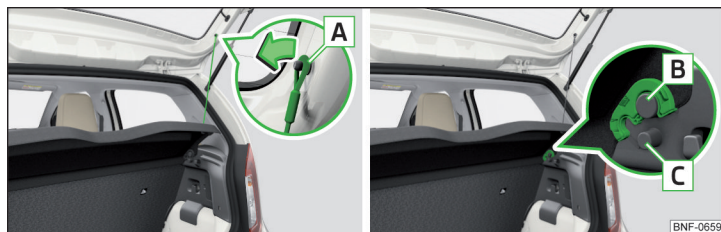

Fig. 78 Removing/installing the luggage compartment cover
If the support straps **A** » Fig. 78 are attached to the boot lid, then opening the lid will raise the boot lid cover (hereafter referred to as cover).
- » Lock the cover in the brackets **C** » Fig. 78 .
The cover is released from the brackets **C** » Fig. 78.
- » On both sides of the boot lid unhook the straps **A** in the direction of the arrow » Fig. 78.
- » Place the cover on the brackets **B** » Fig. 78 and tap on the upper surface of the cover to lock it into the brackets.